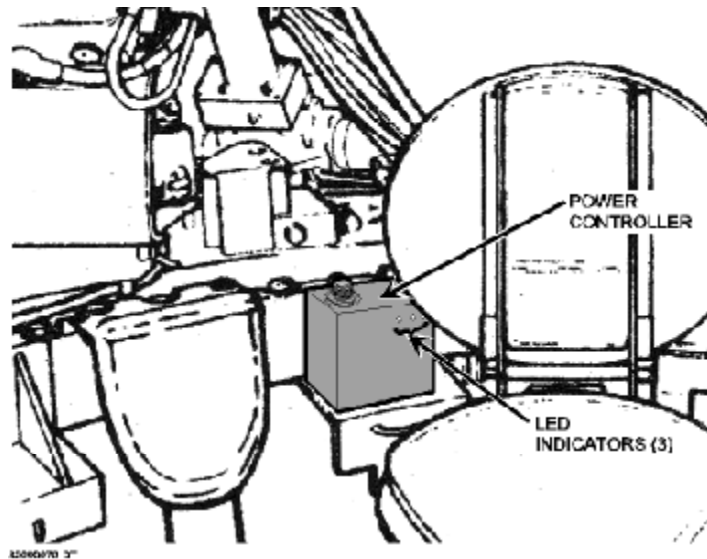

Figure 2-32. M1A1/M1A2 Power Controller.
- d. There should be two (2) strips of fastener tape covering the bottom of the unit. If these strips are not present, apply them using the same method used to apply fastener tape to the vehicle. Refer to paragraph 2.3.2.3.2 for fastener tape preparation.
- e. Attach fastener tape below the loaders shelf on the side of the turret ring on the right side of the loader seat. Mount the Power Controller to the fastener tape ensuring that it is firmly seated and that the LEDs are in plain sight.(See Figure 2-32.)